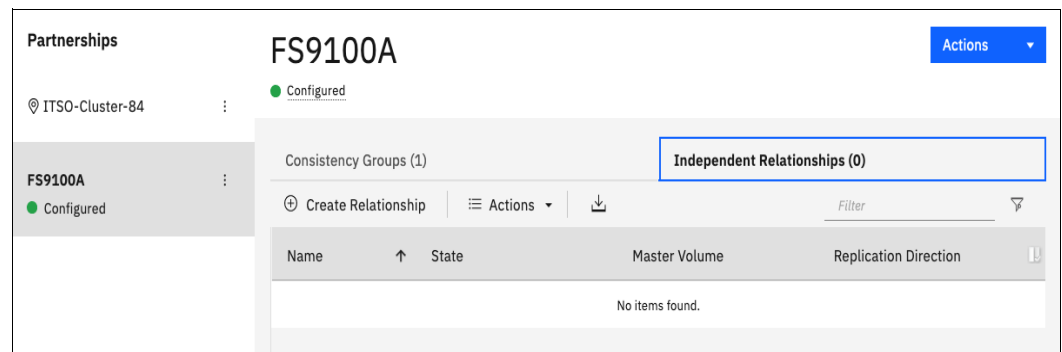

Figure 10-115 Creating a stand-alone Remote Copy relationship
4. If you want to add a stand-alone relationship, select the **Independent Relationships** tab and click **Create Relationship**, as shown in the Figure 10-115.